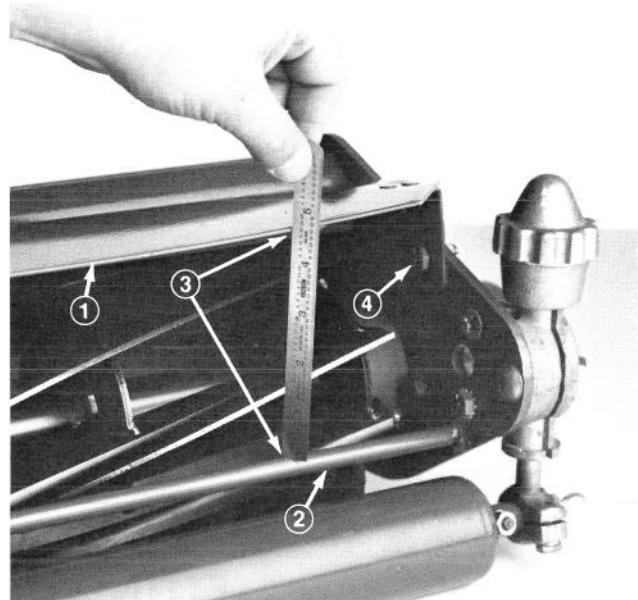

Figure 4
1. Set cutting unit in normal cutting position and measure distance from top of front crossbar to shield at each end of cutting unit (Fig. 4).
2. Height of shield from crossbar for normal cutting conditions should be 4-3/4 inches (12.1 cm). Loosen cap-screws and nuts securing shield to each side-plate, adjust shield to correct height and tighten fasteners (Fig. 4).